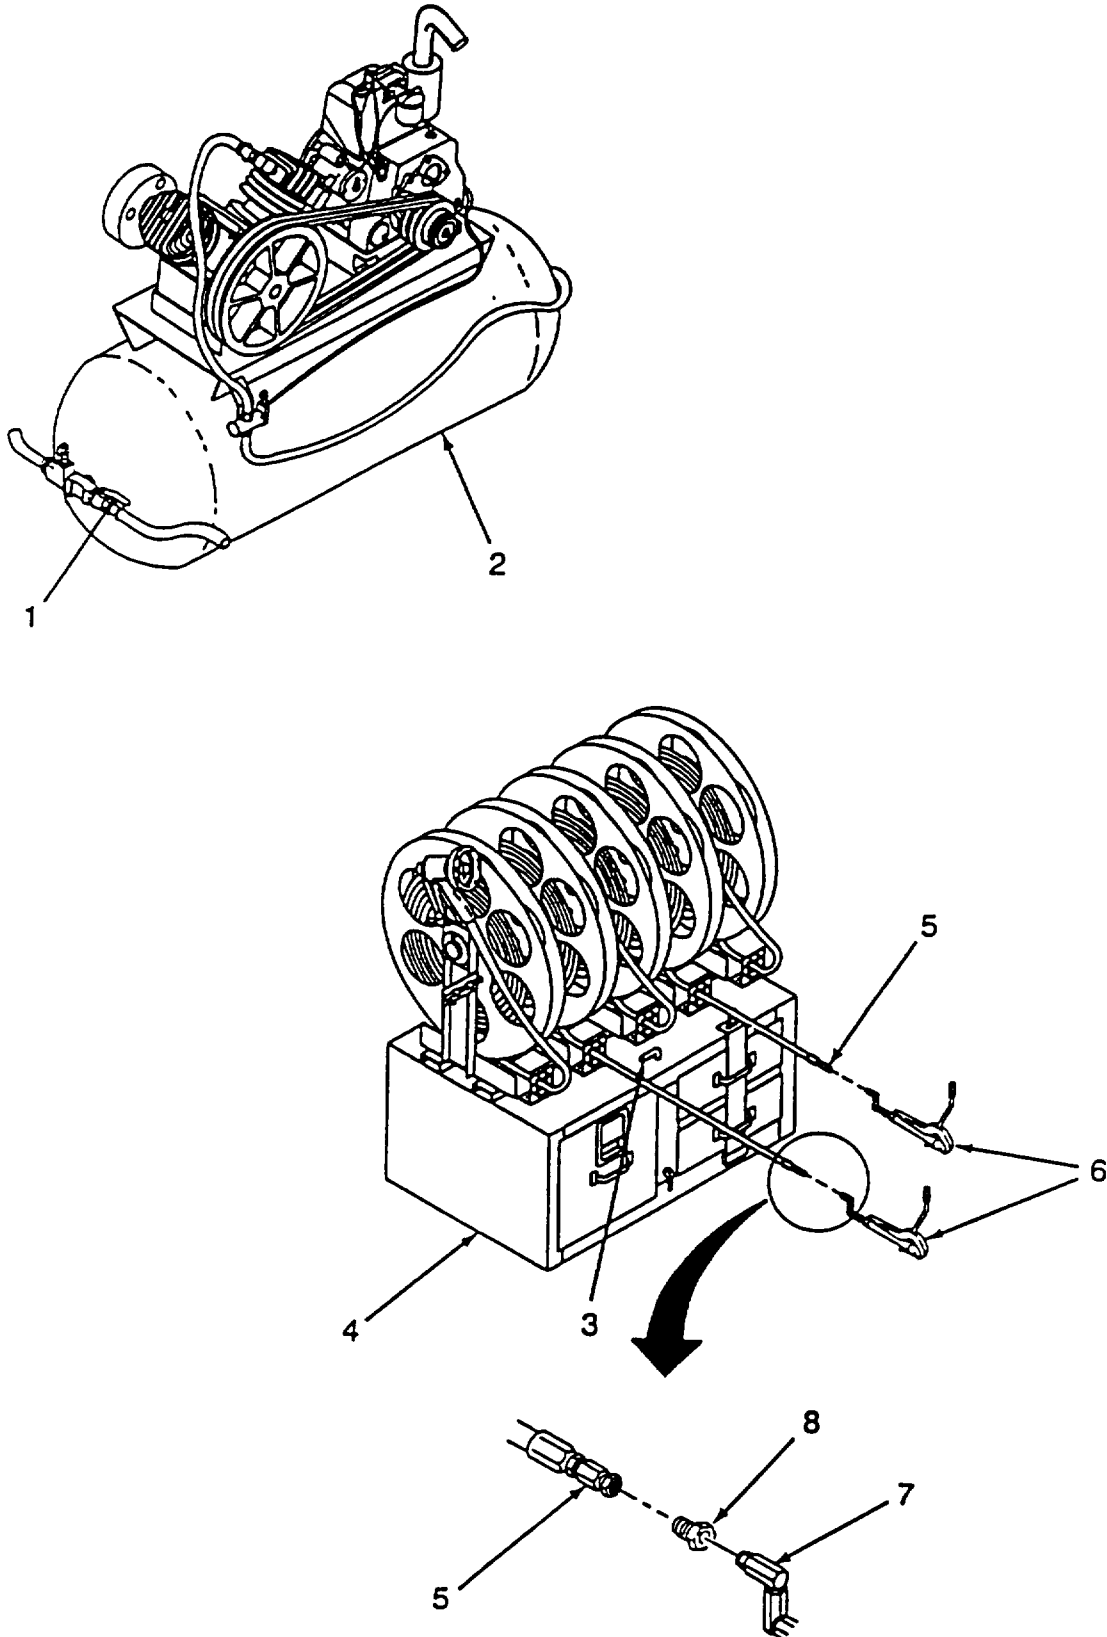

Figure 4-13. Grease Control Valves
- a. Removal. (Refer to Figure 4-13).